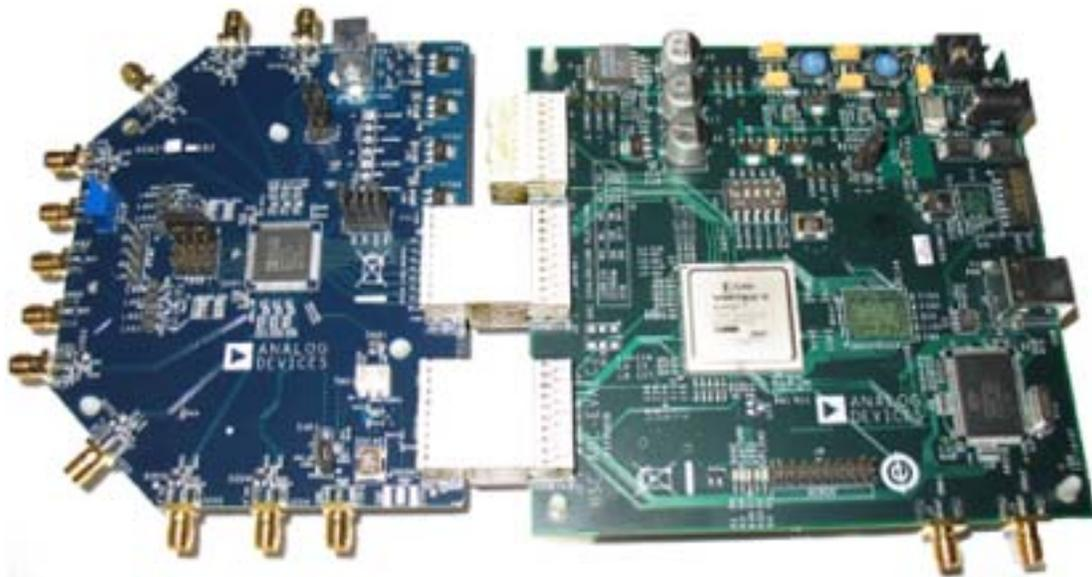
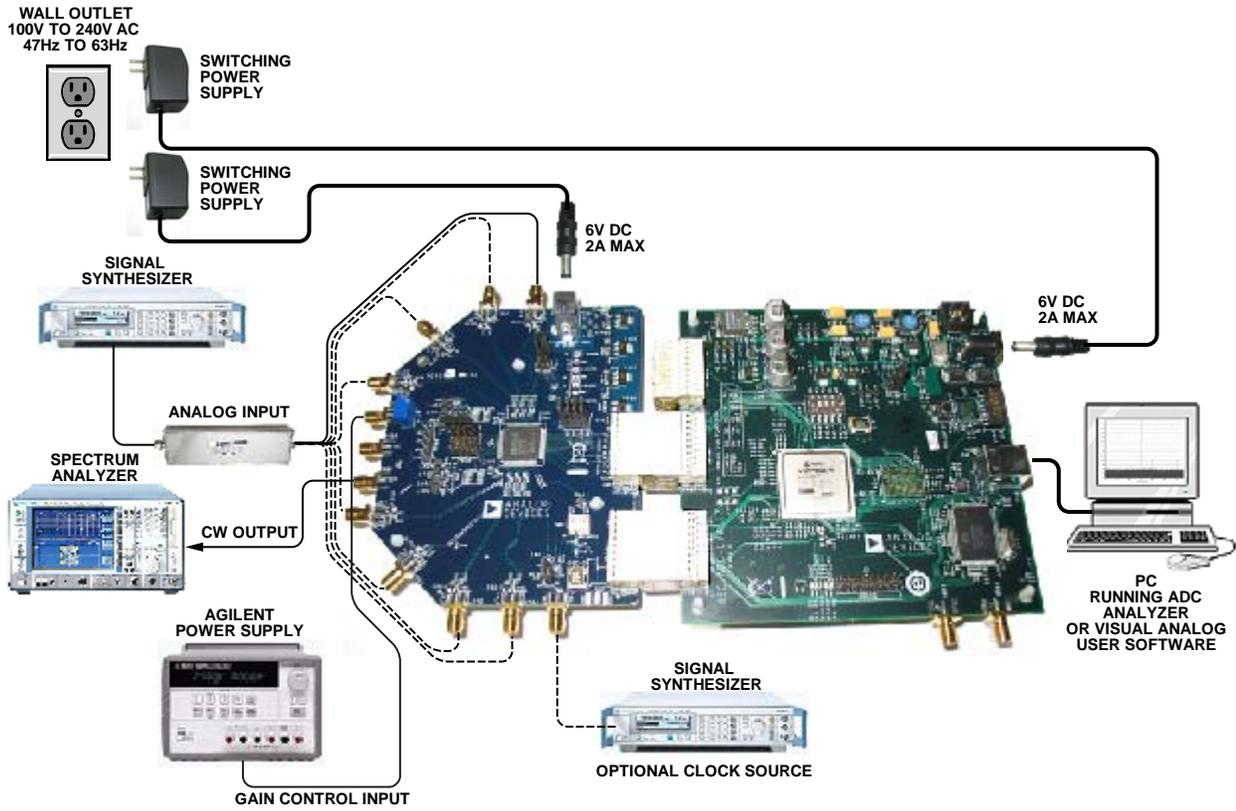

Figure 1. AD9272-65EBZ/AD9272-80KITZ/AD9273-50EBZ Evaluation Board and HSC-ADC-EVALCZ Data Capture Board
Figure 2. Evaluation Board Connection
The AD9272/AD9273 evaluation board provides all of the support circuitry required to operate the AD9272/AD9273 in its various modes and configurations. Figure 2 shows the typical bench characterization setup used to evaluate the ac performance of the AD9272/AD9273. It is critical that the signal sources used for the analog input and clock have very low phase noise (<1 ps rms jitter) to realize the optimum performance of the signal chain. Proper filtering of the analog input signal to remove harmonics and lower the integrated or broadband noise at the input is necessary to achieve the specified noise performance (see the AD9272 or AD9273 data sheet).
If an alternative data capture method to the setup described in Figure 2 is used, optional receiver terminations, R701 to R710, can be installed next to the high speed backplane connector.
1. Connect the evaluation board to the data capture board as shown in Figure 1 and Figure 2.